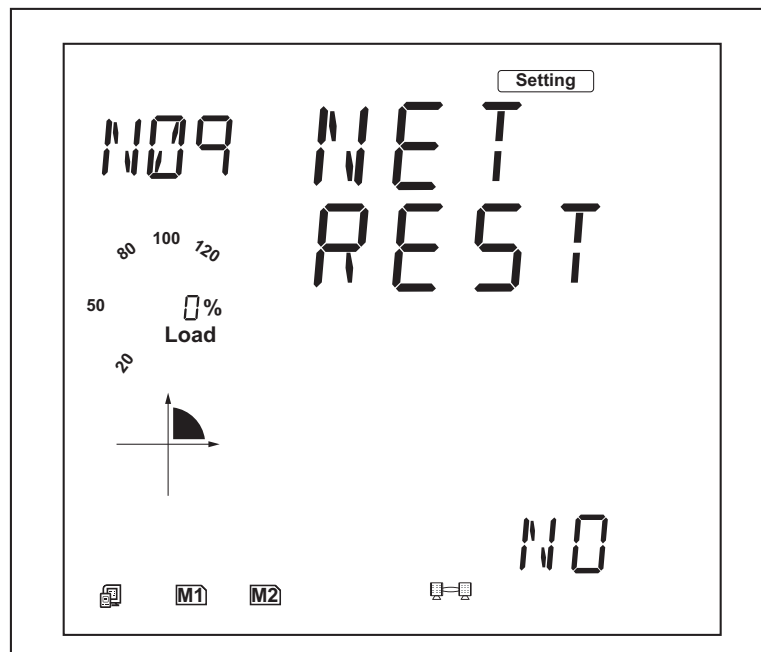

Figure 21: N09: Net Reset
16. Press **P** to get to N09: NET REST (Figure 21 on page 21).